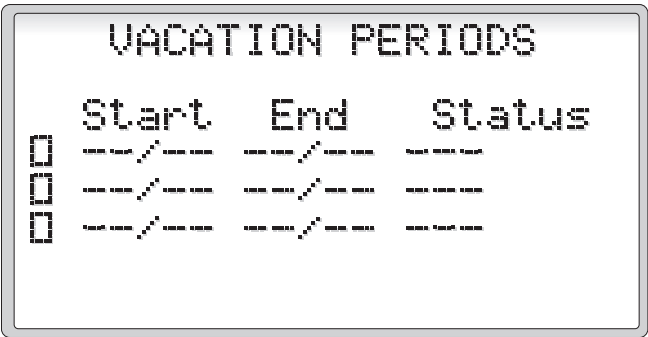

Figure 11
2.3.2.3 Vacation Periods (Figure 11)